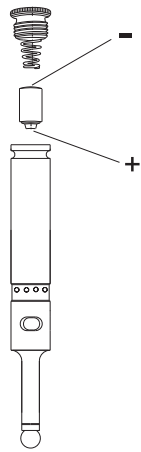
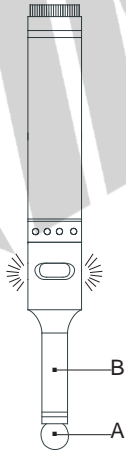

fig.1
fig.2
1. Put one battery(23AE, 12V) in, the negative side of battery should face up(fig.1). Confirm the lighting of LED light and the sounding of beeper(6566-3) with touching A-B part with a metal material(fig.2).